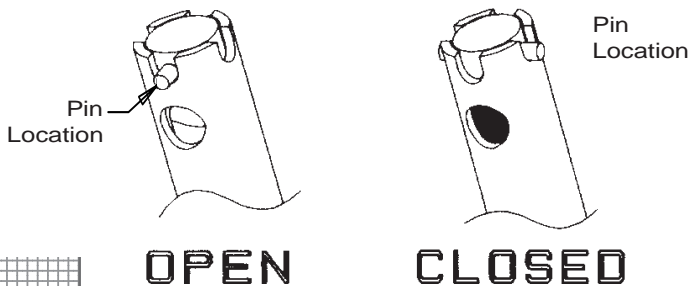

Figure 6-4
a. “OPEN” - Always use this position when dispensing product. (See figure 6-4. When OPEN you can see clear through the hole in the top of mix feed tube.)
b. “CLOSED” - Use this position when the freezer is in the “NIGHT” mode, and when product will not be dispensed for a long period of time. (See figure 6-4. When CLOSED you cannot see through the hole in the top of the mix feed tube — the white plastic regulator tube inside will block the hole.)